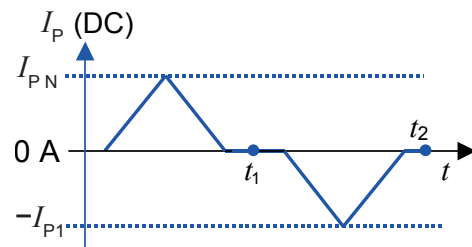

Figure 8: Current cycle used to measure magnetic and electrical offset (transducer supplied)
- or in a known magnetization state, like in the current cycle shown in figure 8.
Using the current cycle shown in figure 8, the electrical offset is: